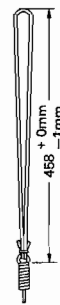

Figure 11-7
- Turn the drum fully clockwise and stretch its cord over the parts in the numerical order - as shown in Fig. 11-7.